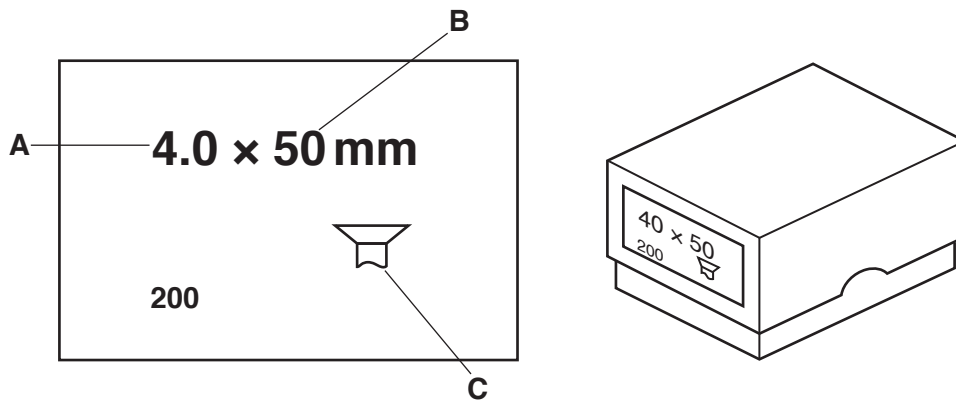

Fig. 3
- 7 Fig. 3 shows a label on a box of screws.